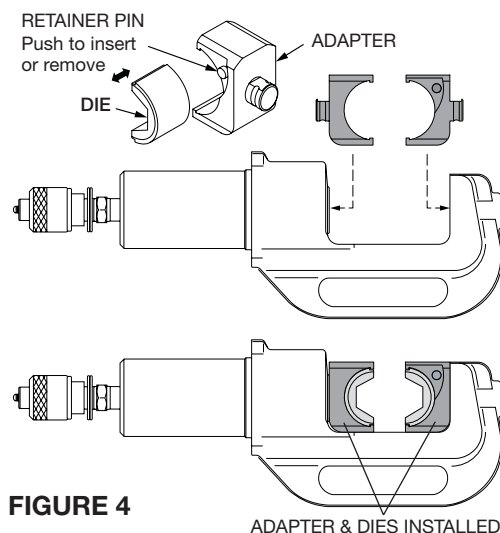

FIGURE 4
All dies have a similar semi-circular shaped outer shell for mounting into a groove in tool as shown in figure 4.
3. Insert adapters into tool head as shown in Figure 4. Tighten set screws to secure adapters.
4. Insert dies into the adapters by pushing the retaining pin and sliding the die into the adapter (see Figure 4).